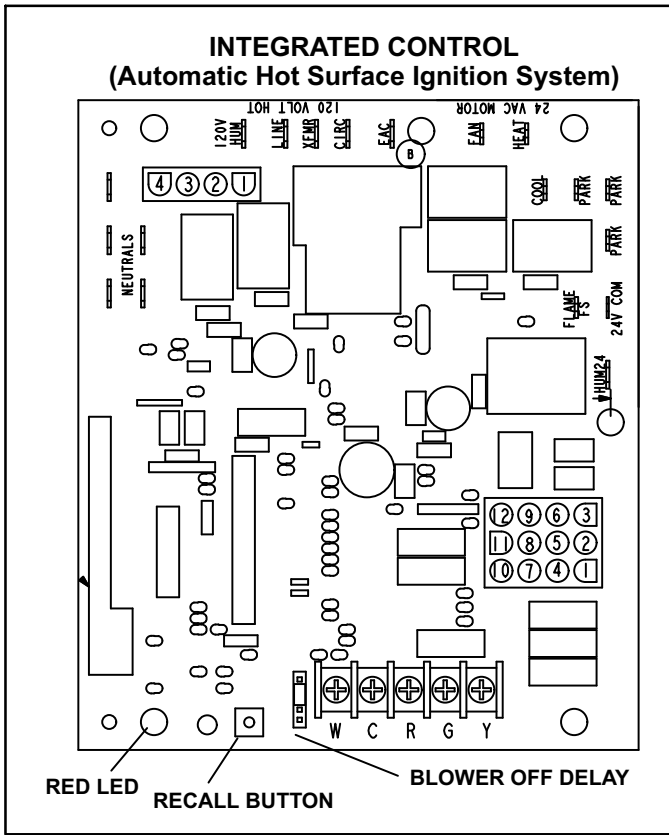

FIGURE 3
The hot surface ignition control system consisting of an integrated control (figure 3 with control terminal designations in tables 1, 2 and 3), sensor and ignitor (figure 5). The integrated control and ignitor work in combination to ensure furnace ignition and ignitor durability. The integrated control, controls all major furnace operations. The integrated control also features a RED LED for troubleshooting and two accessory terminals rated at (1) one amp. See table 4 for troubleshooting diagnostic codes. The nitride ignitor is made from a non-porous, high strength proprietary ceramic material that provides long life and trouble free maintenance.